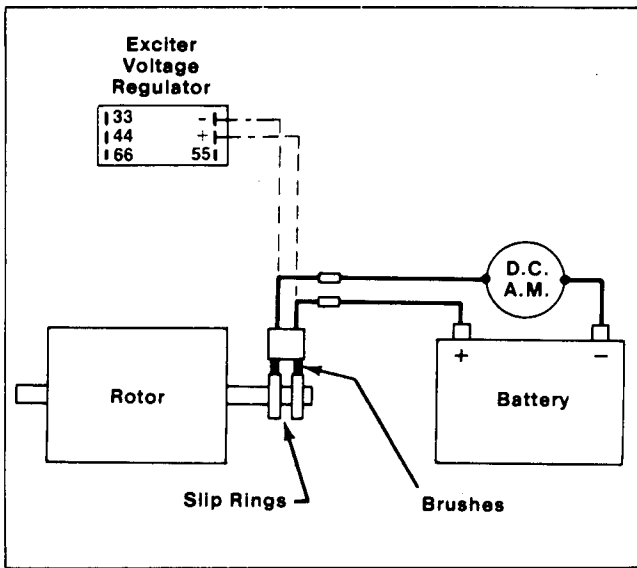

Figure 6-2. Separate Excitation Connections
2. Connect an ammeter and a 12-Volt automotive battery to the positive (+) and negative (-) brush leads. Refer to Figure 6-2. Note and record the ammeter reading.